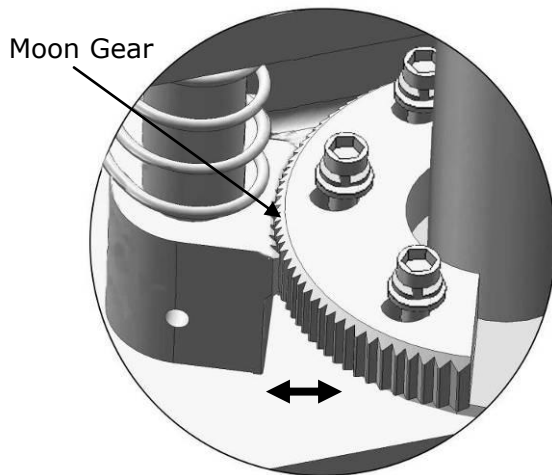

Fig. 35
3. Adjust the arm lock as direction of arrow (See Fig. 35)